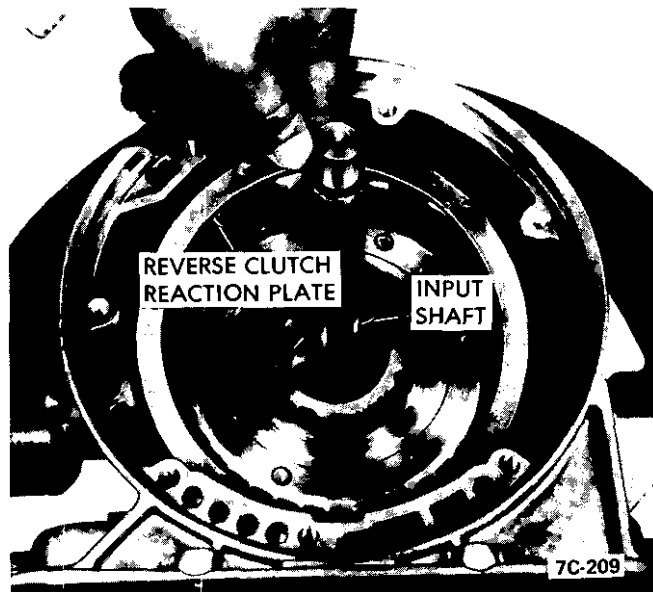

Figure 7C-2 14
2. Install the steel reaction plate into the case. See Figure 7C-214.